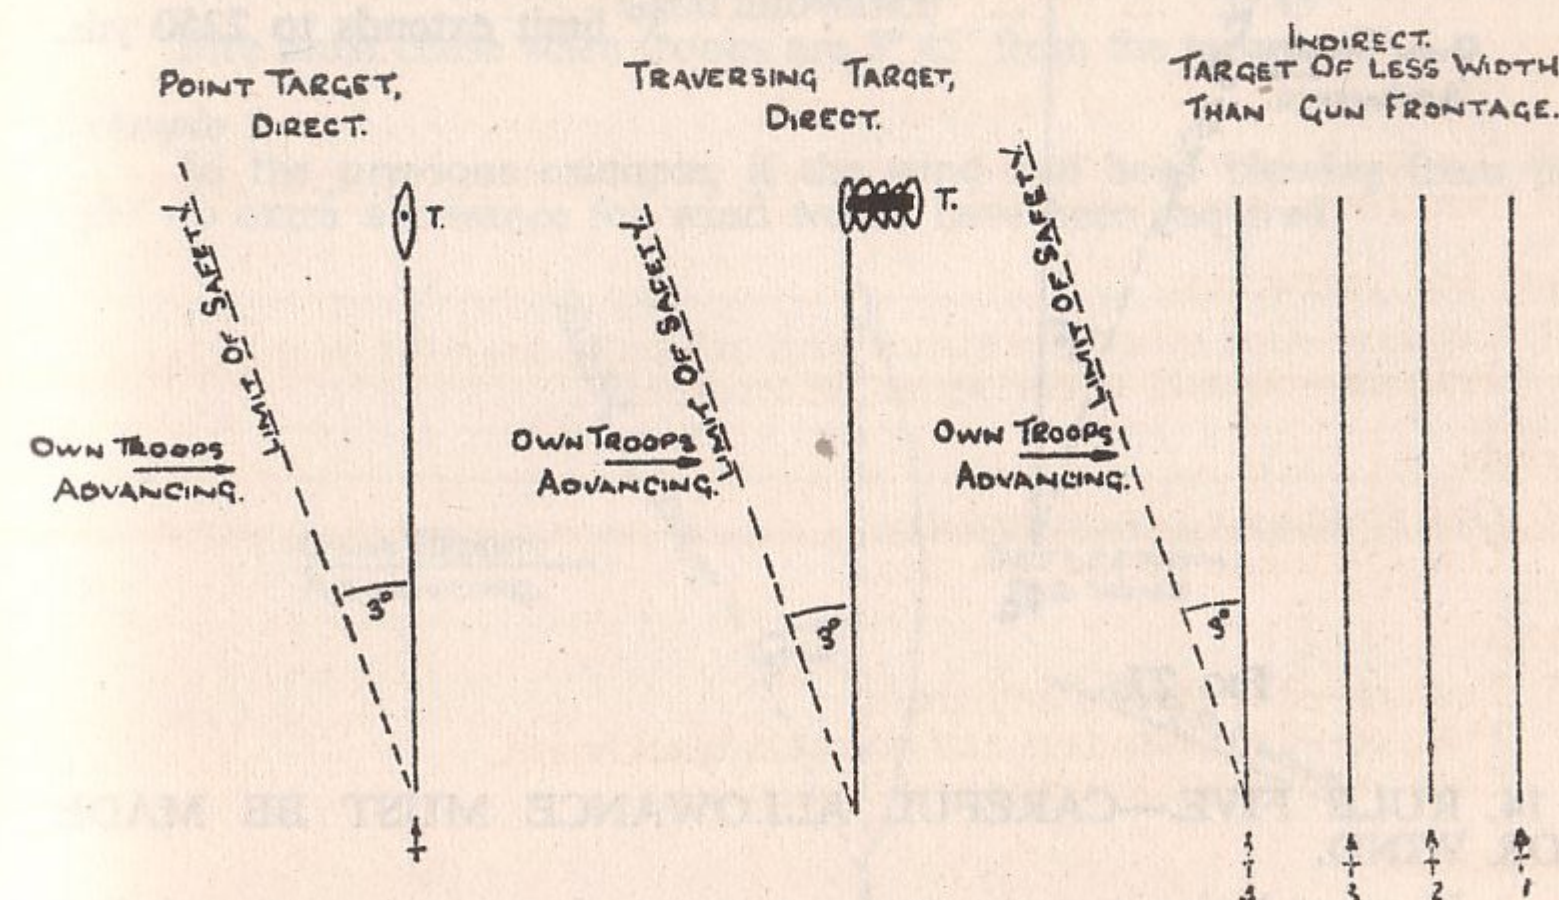

FIG 26
6. Lecture—Draw the diagrams given in Fig 26 on the blackboard.
11. **RULE TWO.—BARRELS MUST NOT POINT NOR BULLETS FALL WITHIN THREE DEGREES OF OWN TROOPS.** (See Fig 26 below).